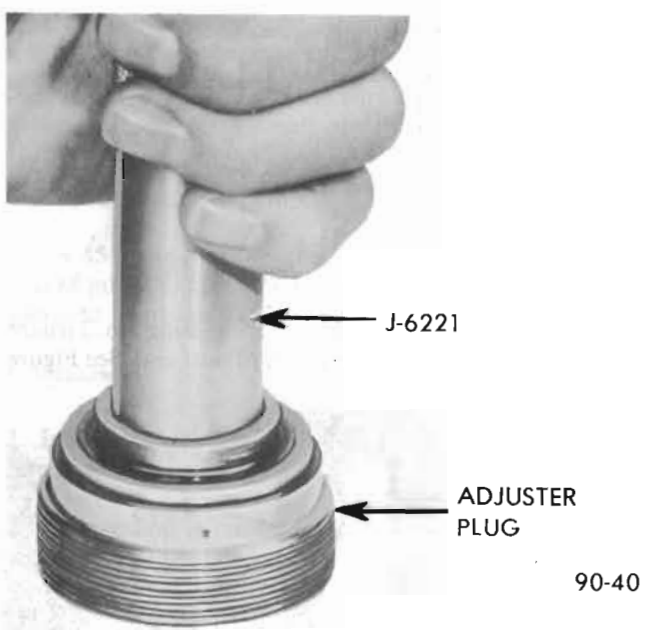

Figure 90-41 Removing Needle Bearing
5. Inspect needle bearing in adjuster plug and if rollers are broken or pitted, remove needle bearing by pressing from thrust bearing end using tool J-6221 and discard bearing. See Figure 90-41.